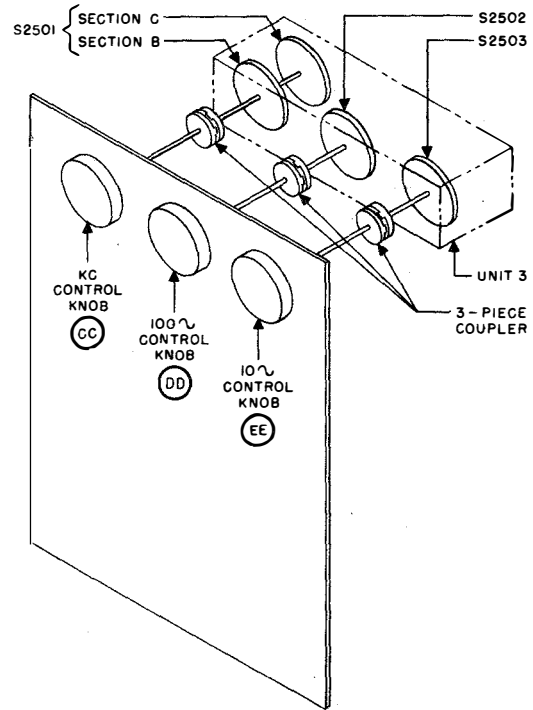

Figure 2-48. 10~ EE, 100~ DD, KC CC Controls, Mechanical Linkages
(1) MECHANICAL LINKAGES.—The control knobs are mechanically connected to shafts of the corresponding rotary switches in the RFO subunits by employing a system of chain drives. The mechanical linkages employed are shown in figures 2-48 through 2-54. The **10~** control knob **EE**, the **100~** control knob **DD**, and the **KC** control knob **CC** are mounted directly on the shafts of the **10~** step switch, S-2053, the **100~** step switch, S-2052, and the **1-kc** step switch, S-2051, respectively, located in unit 3. The **10 KC** control knob **JJ** is connected by a chain to the shaft of the **10-kc** step switch, S-2201, located in unit 6. The **100 KC** control knob **HH** is connected by a chain to a shaft on which is mounted the **100-kc** step switch, S-2326 in unit 8. This shaft, in turn, mounts a continuous chain that drives two additional shafts. On the first of these shafts is mounted the **100-kc** step switch, S-2427 in unit 9; on the second, the **100-kc** step switch, S-2652 in unit 11B, and the **100-kc** step switch, S-2802 in unit 11C, are mounted. The **MC** control knob **GG** is chain-connected to a shaft on which **1-mc** step switch S-2651 in unit 11B and **1-mc** step switch S-2801 in unit 11C are mounted. **BAND** control knob **FF** chain-drives the shaft of band-switch S-2996 located on unit 14. **BB** KNOB control chain-drives the shaft of **1-mc** step switch S-2526 in unit 10. **AA** KNOB control is chain-connected to a shaft connected to unit 9, where this shaft, in turn, is chain-connected to the shaft of the **5-mc** step switch, S-2426.
(2) MECHANICAL SELECTION OF A FREQUENCY.—To set up a frequency, the above-mentioned control knobs permit the manual selection of any frequency in 10-cycle steps between 0.3 mc to 26 mc. The dial reading corresponding to the **100 KC** control knob **HH** down through the **10~** control knob **EE** designates directly the significant figures of the frequency setting through the **100 KC** setting. The selection of the correct megacycle setting requires the regulating of the **AA** KNOB control, the **BB** KNOB control, the **BAND** control knob **FF**, and the **MC** control knob **GG**. **AA** and **BB** select the frequency of the outputs of units 9 and 10 respectively according to the megacycle setting of the frequency desired. The outputs of units 9 and 10 are fed to unit 11A or 11B or 11C as determined by the proper setting of the bandswitch S-2996 controlled by **BAND** control **FF**. The **MC** control knob **GG** controls the tuning in units 11B and 11C. The following table shows the settings of **AA**, **BB**, **FF**, and **GG** according to the megacycle value of the RFO output frequency. In all instances the positions of the control knobs correspond to the positions of switches they control.